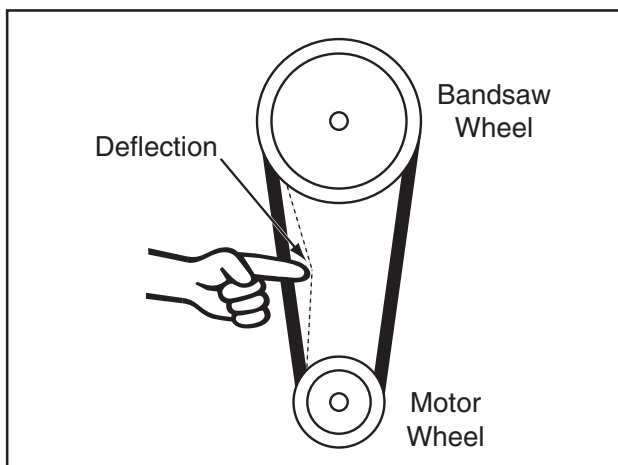

Figure 68. V-belt deflection.
6. Check the V-belt tension. When tensioned correctly, the V-belt can be deflected approximately $\frac{3}{4}$ " (see **Figure 68**).